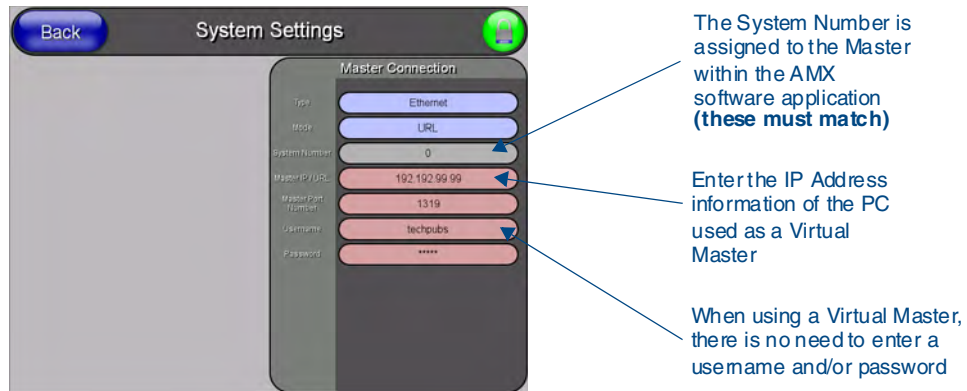

FIG. 43 Sample System Settings page (for Virtual Master communication)
- 13.** Select **Protected Setup > System Settings** (located on the lower-left) to open the *System Settings* page (FIG. 43).